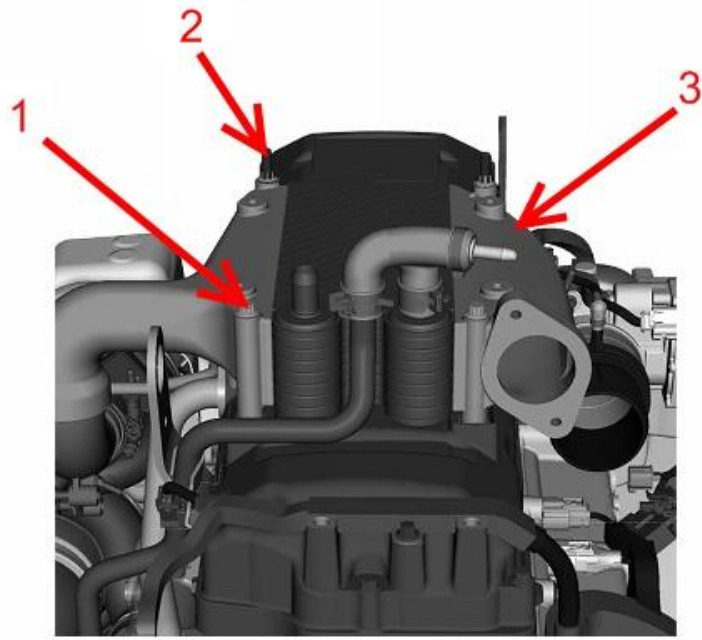

Figure 5: Interstage Cooler (ISC)
13. Remove two bolts (Figure 5, Item 1) and stud bolts (Figure 5, Item 2) from Interstage Cooler (ISC) (Figure 5, Item 3).